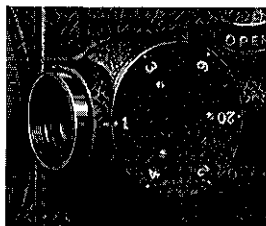

FIGURE 15
26. To set the Filmo 70-DA viewfinder, revolve the viewfinder dial (Figure 15) in either direction until the figure corresponding to the focal length of the lens to be used coincides with the index mark on the viewfinder tube just in front of the dial. This action locates, within the viewfinder tube, a rectangle which restricts the angle of vision through the viewfinder to exactly that of the photographic lens. The "20" means 20 mm.; others are inches.